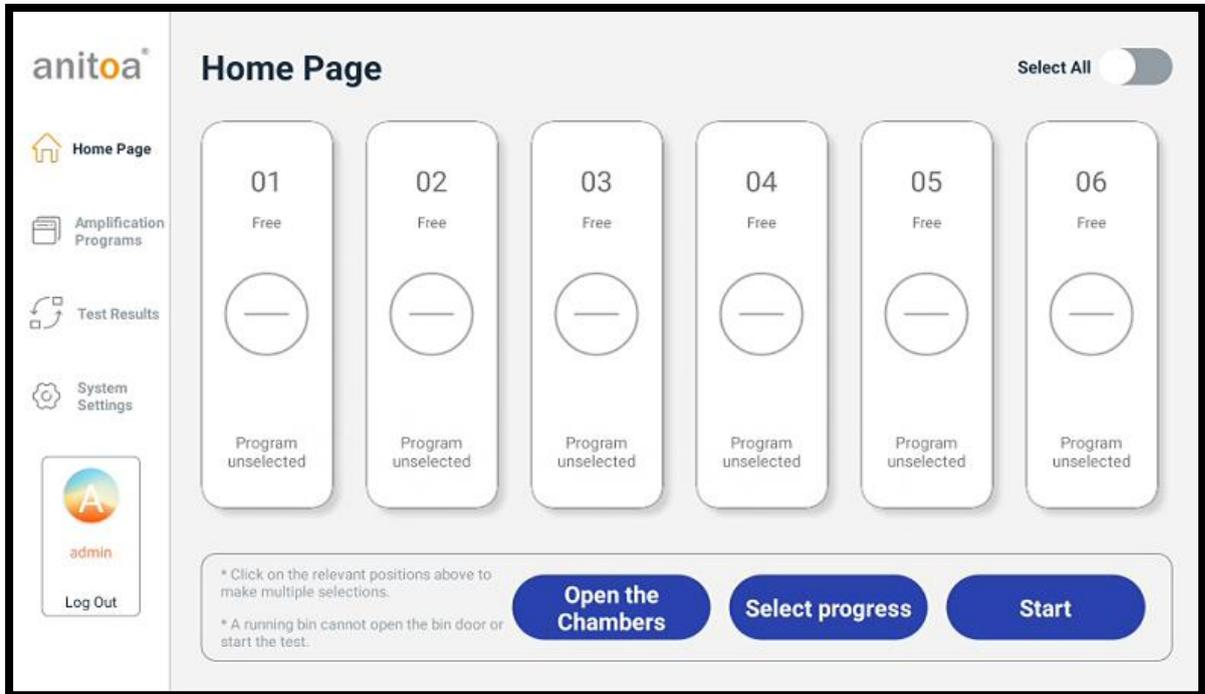

Figure 4-2-1 Home page interface
- 1) Homepage: click on the software to enter the home page, in the home page you can see 6 positions to choose from, each with 16 wells, multiple bays can be run simultaneously (Figure 4-2-1).